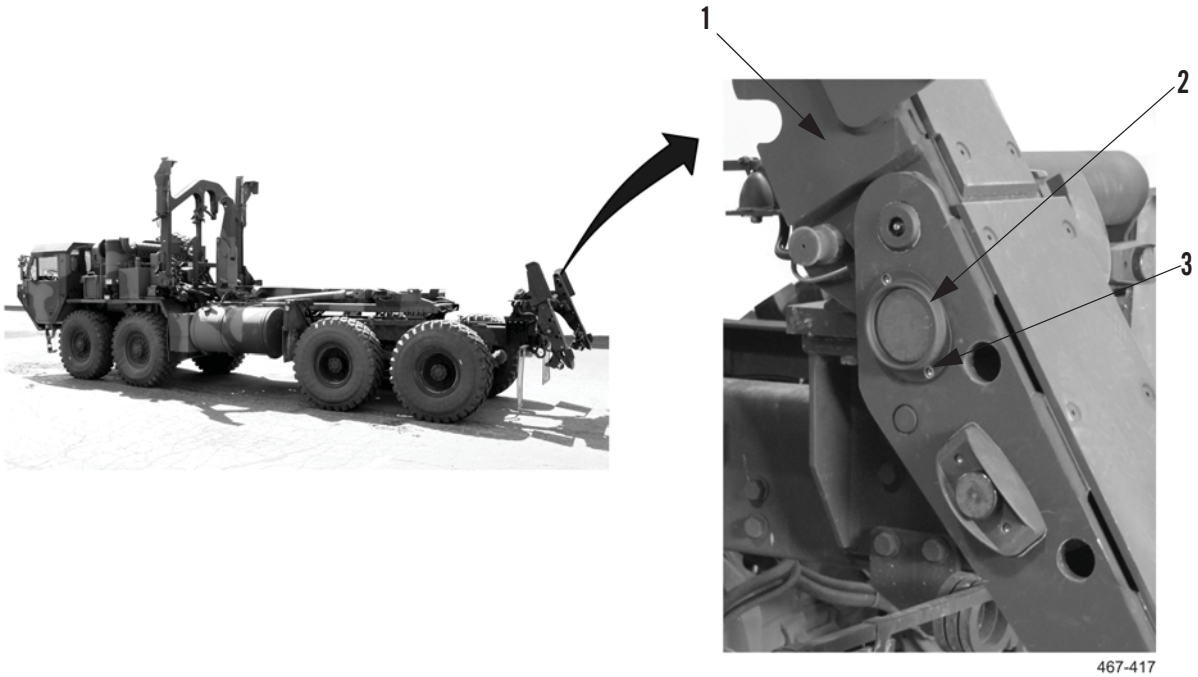

Figure 16. Reflector Installation.
1. Install reflector (Figure 16, Item 2) and two screws (Figure 16, Item 3) on slider assembly (Figure 16, Item 1).